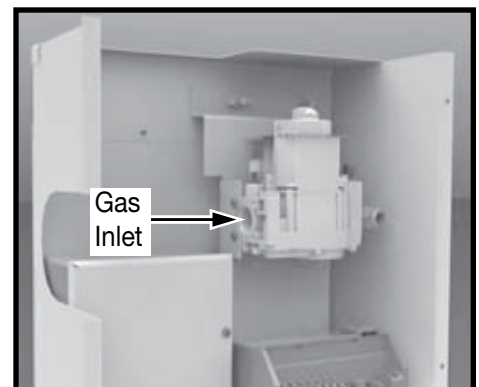

Figure 22: Gas inlet on gas valve.
6. Connect the gas supply to the gas inlet (Figure 22).
1. Connect the gas supply to the gas valve (Figure 22).